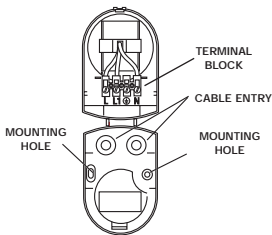

Fig. 8
- Cabling can either be from directly behind the unit through the wall, or along the surface from below - via the gaps provided in the housing [Fig. 8].